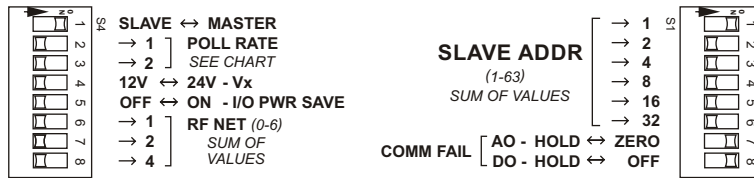

Figure 1: Master Unit Settings
**Step 1: Set one unit as the Master.** Note that the units are identical, and come with the same default DIP Switch settings. Pick one unit to be the Master and move the upper left DIP switch (S4-1) to the "Master" position. See Figure 1 & 2 below for proper settings.
Figures 1 & 2 below show the typical DIP Switch settings for simple Cable Replacement as described above. Figure 2 shows the factory default settings (Slave), and Figure 1 shows the upper-left DIP Switch S4-1 set for Master function.